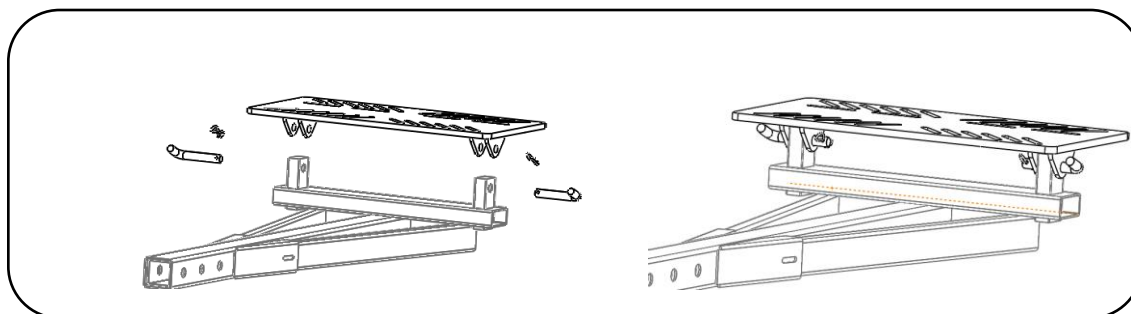

Figure 2-7
1. Connect the corresponding location of the bracket to the previously installed snow blower car frame, as shown in figure 2-7.